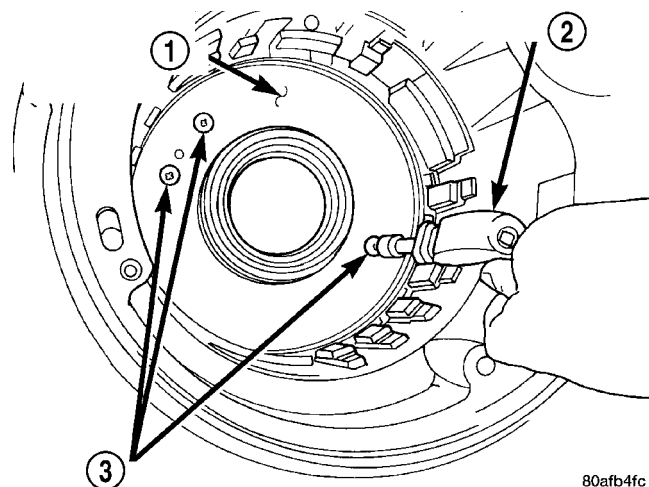

Fig. 88 Install Piston Retainer-to-Case Screws
(4) Install low/reverse piston retainer-to-case bolts (Fig. 88) and torque to 5 N·m (45 in. lbs.).